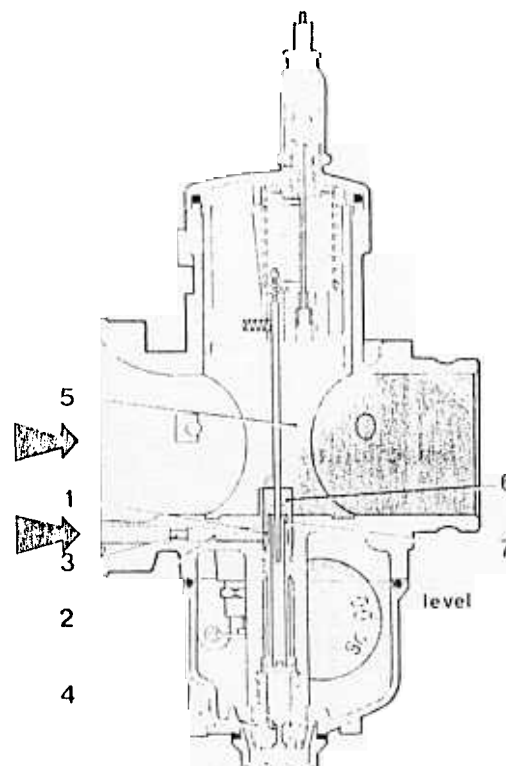

fig. 22
Figure 22 shows the full-throttle mechanism used on two-stroke engines which features an extended nozzle (6) at the end of the atomiser (7); this produces better performance during acceleration.